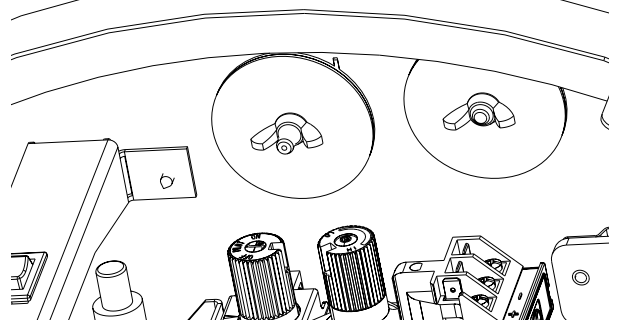

Figure 7.4. Air Shutter location.
3. Loosen the primary air shutter wingnut and push the stem all the way back. Fig. 7.4.